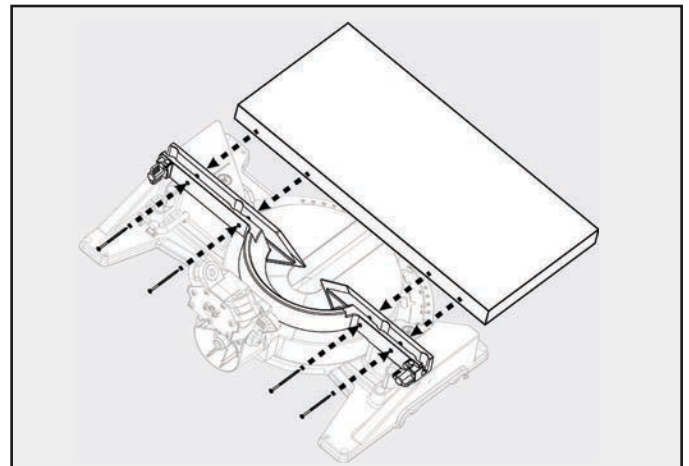
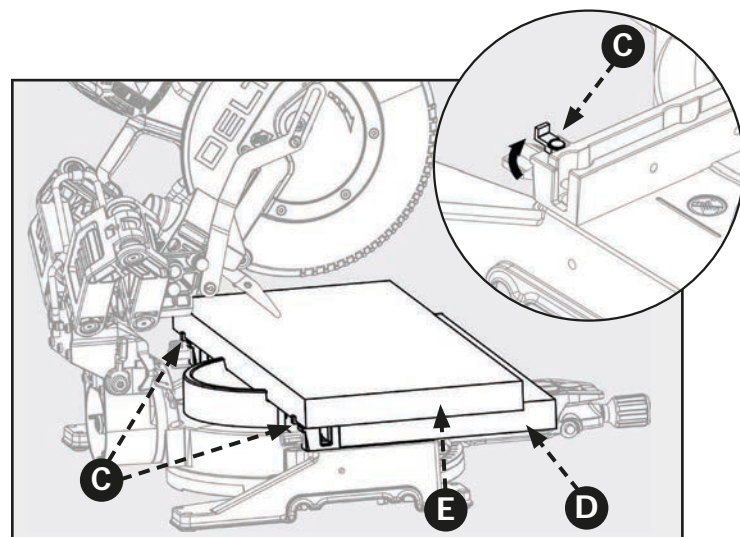

Figure 27
Figure 28
2. Flip the support tabs (C) into position. Tabs (C) are on both the left and right sides of the lower (fixed) fence. These will function as your workpiece backstop. See Figure 28.
3. You will need to add an auxiliary table board (D) to support your large capacity workpiece (E). Place a 2" x 14" auxiliary table board (D) onto the saw table and against the lower (fixed) section of the saw fence. Make sure the board is securely positioned against the lower (fixed) fence.
NOTE: Use wood screws to secure the auxiliary table board (D) to the lower (fixed) fence. See Figure 27.
4. Use the support tabs (C) to secure your workpiece before making any cuts